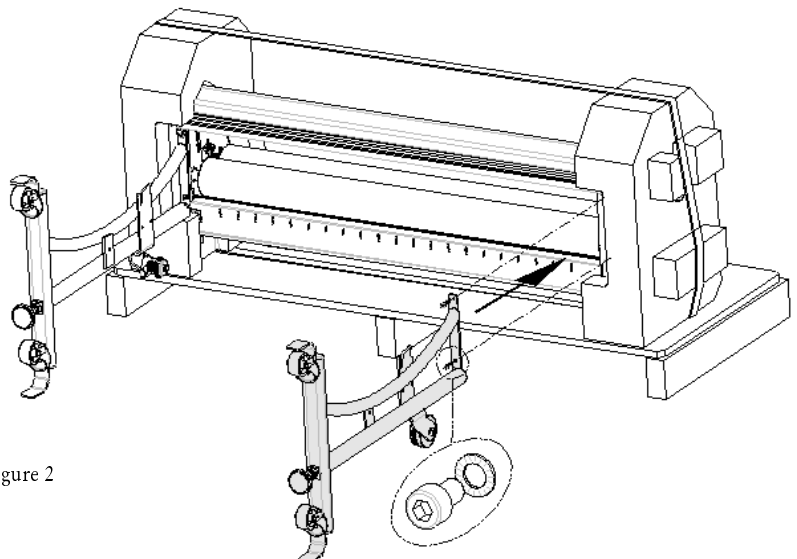

Figure 2
- Mount the right-hand stand leg onto underside of the laminator, as shown in Figure 2.